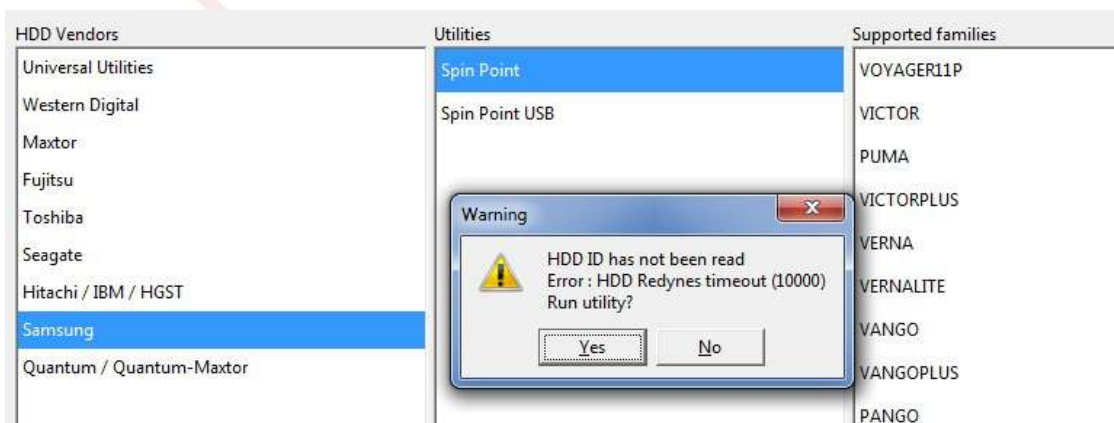

Fig.8.1.
- ◆ Confirm the prompt suggesting to start the utility (*Fig.8.1*).